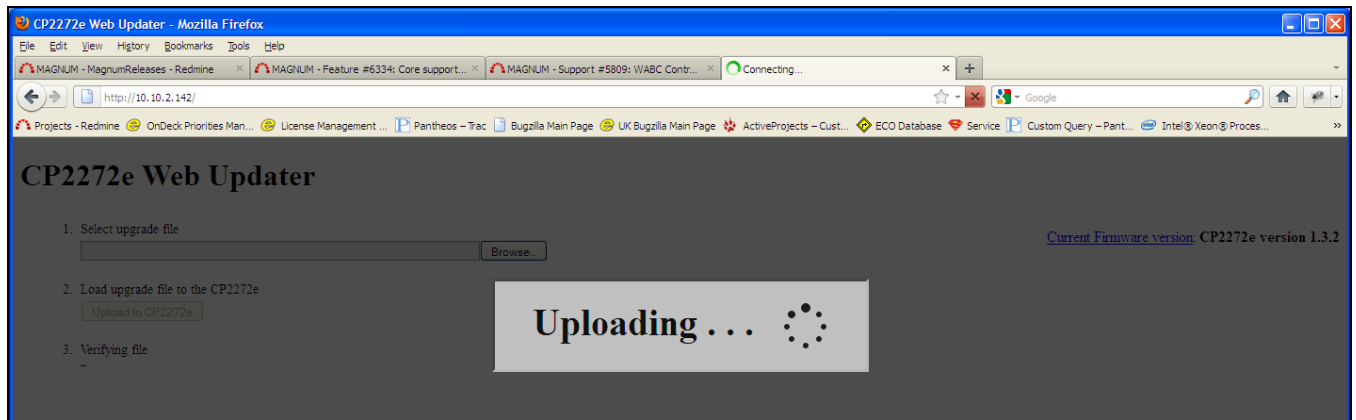

Figure 5-2: Uploading Progress Window
- The user can load the upgrade file to the CP-2272E control panel by pressing the **Upload to CP2272e** button that appears once the file is selected. The firmware on the panel will now be updated and an uploading message will be displayed in the window as shown in Figure 5-2. Please be patient as this process may take several minutes.